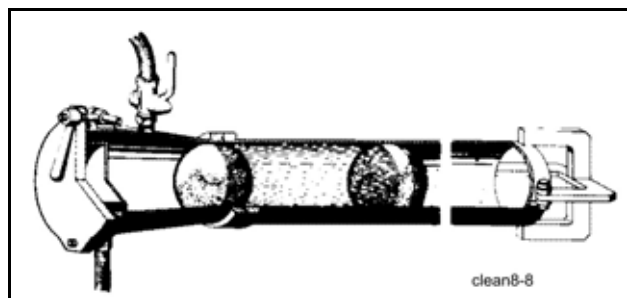

Fig. 232 Rinsing the pumping line
- To do this, press a soft sponge rubber ball about 1 m into the pumping pipe (**Fig. 232**).